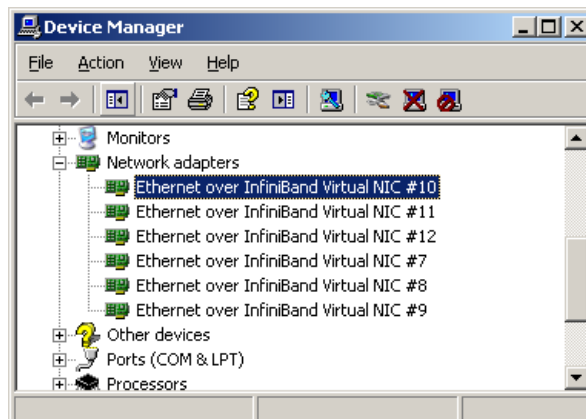

Figure 4-45 Virtual NICs in Device Manager
- Repeat steps 5 through 7 for the other VNIC adapters. There is a total of six adapters. When the driver installation is complete, you see six Virtual NICs under Network Adapters in the Device Manager as shown in Figure 4-45.